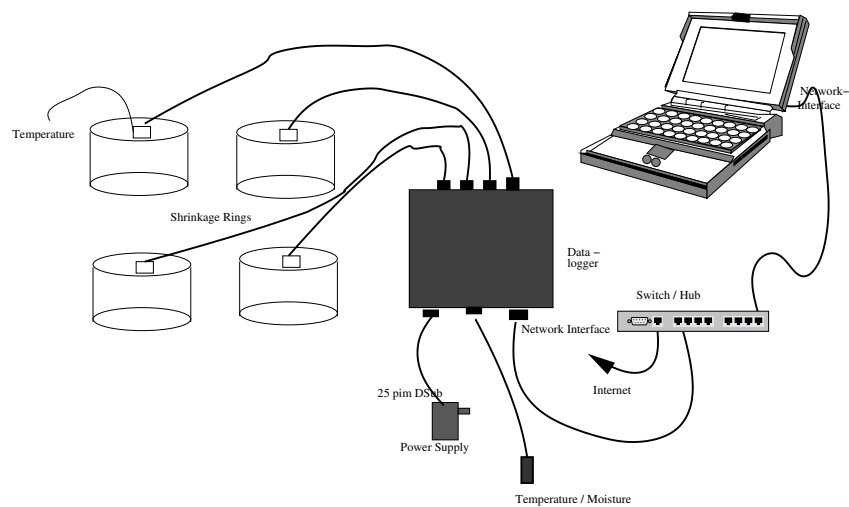

Figure 11: Wiring the shrinkage rings
- Connect the 25-pin D-Sub connector with the orange cable to the data-logger. (figure 11). Connect the M8 connector to the strain gage amplifier mounted at the green steel ring. Fix the screw of the connector only by hand. Don't take a gripper.